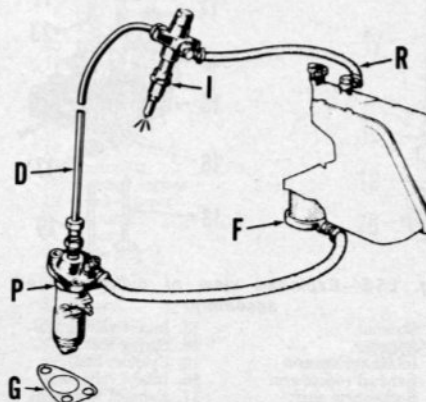
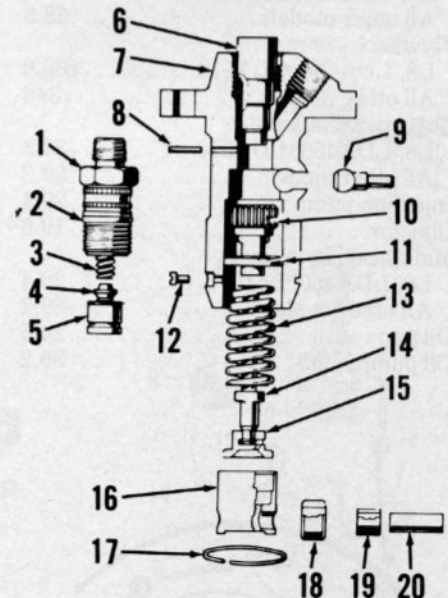

Fig. L5-2 — Diagram of fuel system.
Fig. L5-3 — View of fuel injection pump.
FUEL FILTER. The fuel filter is located inside the fuel tank as shown in Fig. L5-2. Renew fuel filter after every 300 hours of operation or sooner if required.
Injection pump timing is adjusted using shim gaskets (G—Fig. L5-2) between pump body and mounting surface on crankcase. To check injection pump timing, unscrew high pressure delivery line (D) fitting from delivery valve holder (1—Fig. L5-3). Unscrew delivery valve holder and remove spring (3) and
To advance injection timing, remove shim gaskets (G—Fig. L5-2); install shim gaskets to retard injection timing. Reinstall removed pump components and tighten delivery valve holder to 34.3-39.2 N·m. Tighten injection pump retaining screws to 29.4 N·m.